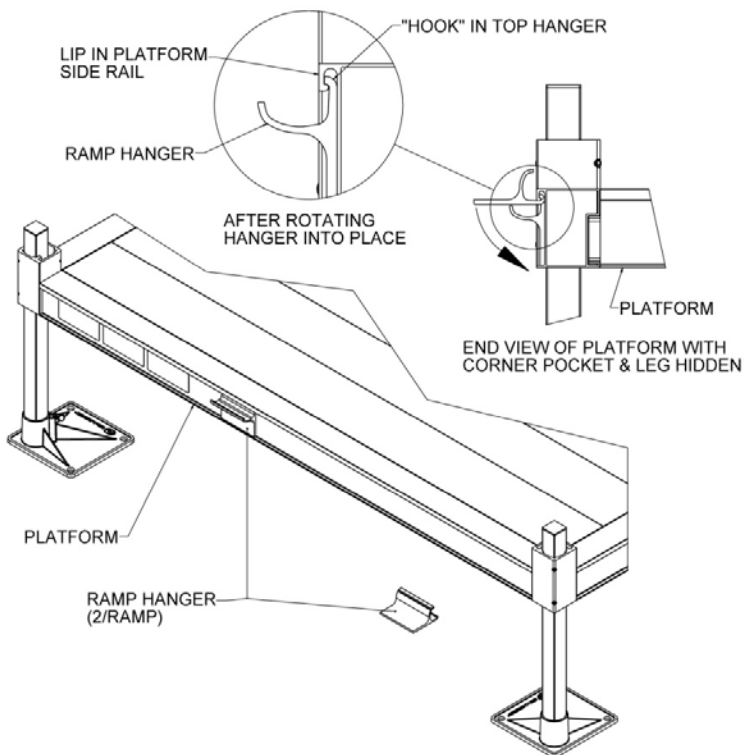

FIG. 3.3
- 3.2.4. Hold the hanger perpendicular (approximately) to the platform side rail then bring the hanger upward until it is against the side rail lip. Rotate the hanger and continue pushing upward in such a manner that the "hook" at the top of the hanger goes behind and catches on the lip in the top of the platform side rail and the hanger sits on the ledge at the bottom (FIG. 3.3).